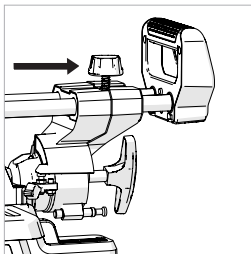

Fig. 37
- Tighten the slide lock screw. **(Fig. 37)**